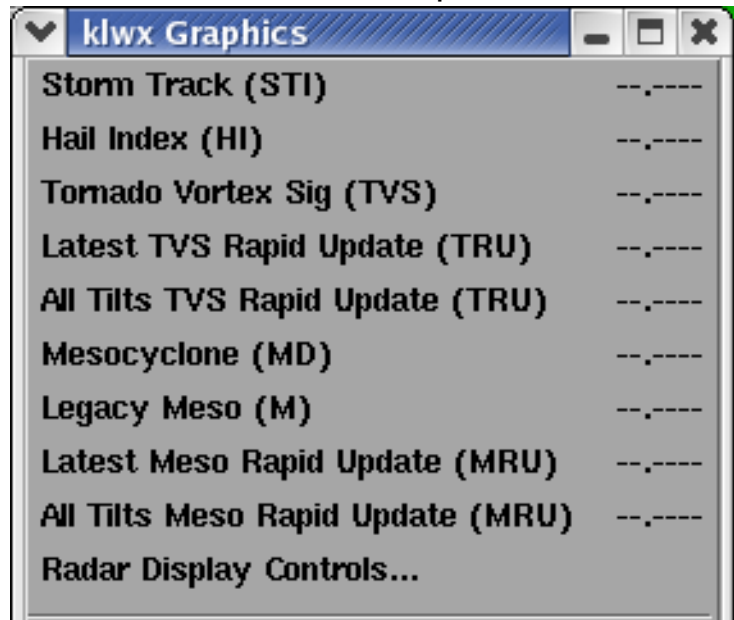

Figure 4-20. Graphics window with entries to display the MD and legacy M and MRU products.
The Mesocyclone Detection (MD) product is available at the end of the volume scan. The MD is displayable from the graphics menu (See Fig. 4-20).